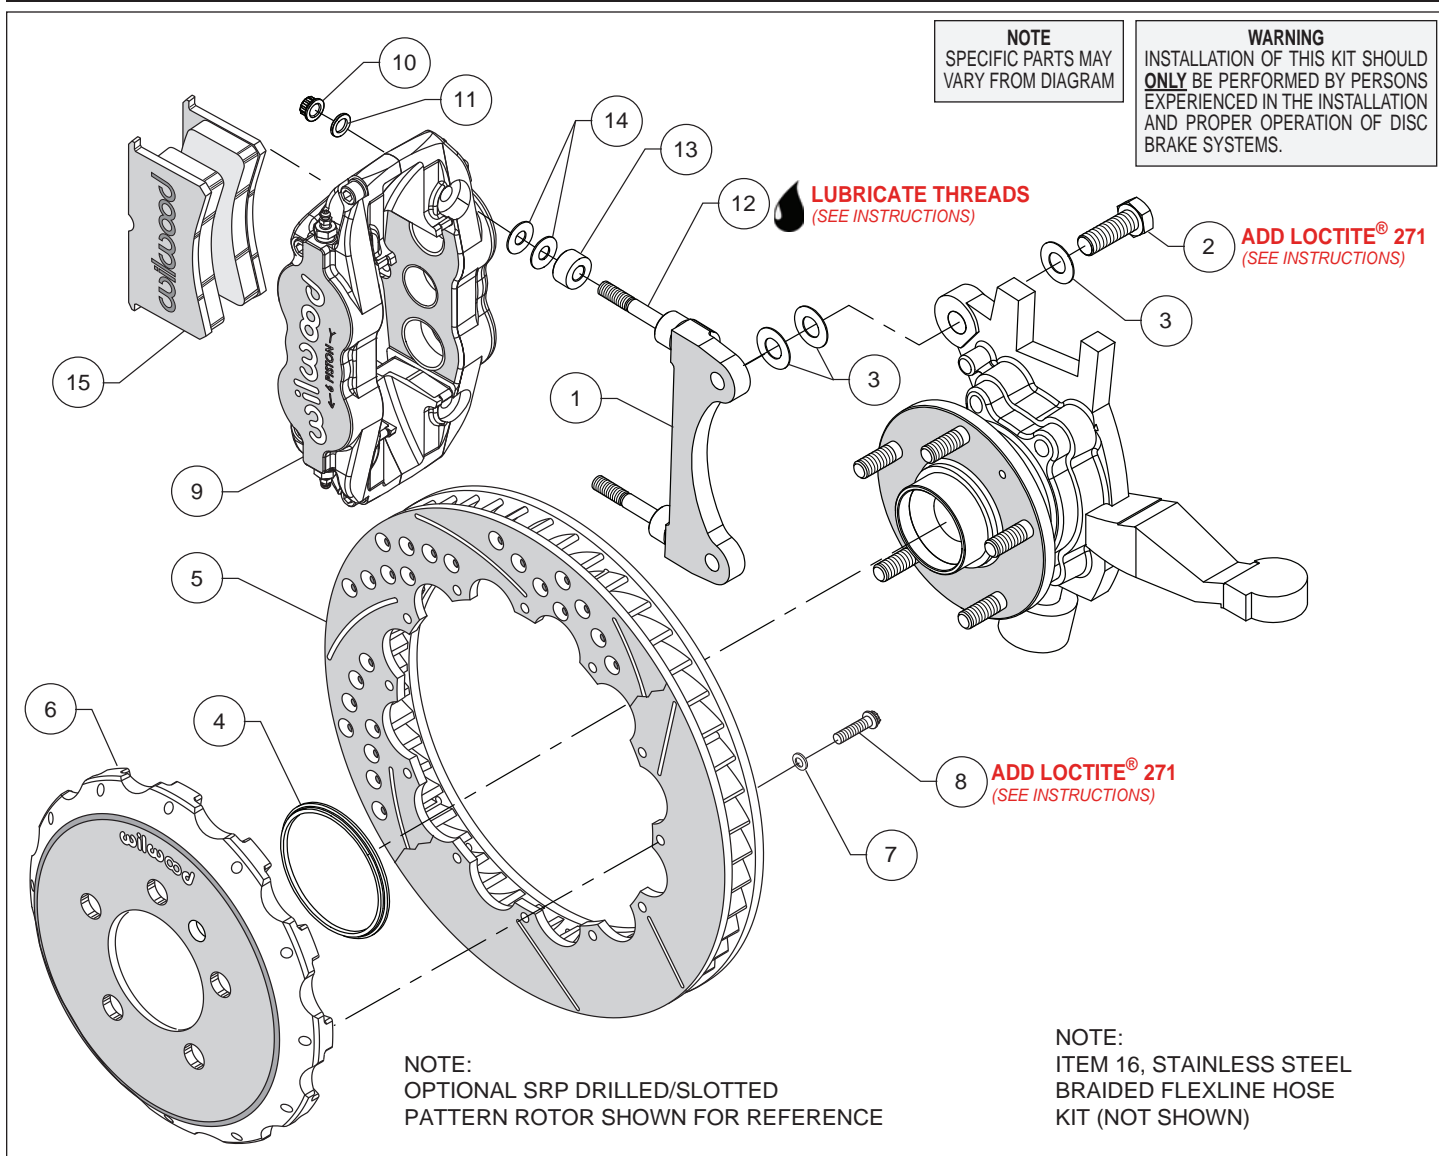
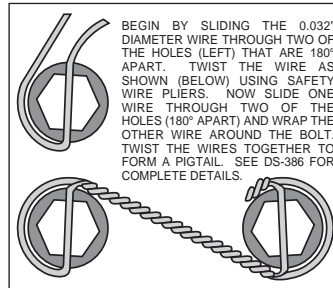

Figure 1. Typical Installation Configuration
Figure 3. Safety Wire Diagram
Assembly Instructions (numbers in parenthesis refer to the parts list and Figure 1 on the preceding pages):
- The caliper mount bracket (1) should initially be installed with clean, dry threads on the mounting bolts. Orient the bracket as shown in Figure 1 and Photo 1, and install using shim washers (3) and bolts (2). Initially place two shims (3) on each bolt between the bracket and upright, Figure 1. Temporarily tighten the mounting bolts. **NOTE:** *The bracket must fit squarely against the mount bosses on the upright.* Inspect for interference from casting irregularities, machining ridges, burrs, etc. Later, after the caliper alignment has been checked, the mount bolts will be secured using red *Loctite*[®] 271.
- Orient the rotor (5) and the hat (6) as shown in Figure 1 and Photo 2. Attach rotor to hat using bolts (8) and washers (7). Using an alternating sequence, apply red *Loctite*[®] 271 to the threads, and torque to 155 **in-lbs**. For an added measure of security, the bolts may be safety wired using standard 0.032 inch diameter stainless steel safety wire as shown in Figure 3. Please refer to Wilwood's data sheet DS-386 (available at www.wilwood.com/Pdf/DataSheets/ds386.pdf) for complete safety wire installation instructions.
- Slide the rotor registration adapter (4) onto the axle register on the axle hub with the smaller O.D. facing outward, Photo 3. Slide the hat/rotor assembly onto the axle hub. **NOTE:** *The hat must fit flush against the axle hub flange or excessive rotor run out may result.* Install three lug nuts (finger tight) to keep the hat/rotor assembly in place while continuing with the installation.
- NOTE:** *This kit contains distinct right and left hand calipers that must be mounted in a specific direction, as described below.* Lubricate the caliper mounting studs (12) with lightweight oil. Initially place two .035" thick shims (14) and spacer (13) on each stud as shown in Figure 1 and Photo 4. Mount the caliper (9) onto the bracket (1) using lock nuts (10) and washers (11), Figure 1. Ensure that the caliper is mounted so that the largest pistons are at the rotor exit end of the caliper, in relation to the direction of rotor rotation. Temporarily tighten the lock nuts and view the rotor through the top opening of the caliper. The rotor should be centered in the caliper, Photo 5. If not, adjust by adding or subtracting shims (3) between the bracket and the upright. Always use the same amount of shims on each of the two mounting bolts. Once the caliper alignment is correct, remove the bracket mounting bolts one at a time, apply red *Loctite*[®] 271 to the threads, and torque to 77 ft-lb.